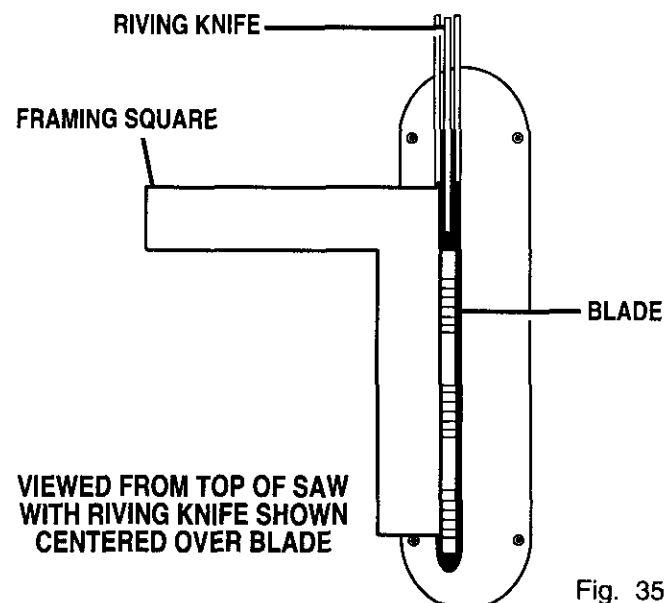

Fig. 35
- Center riving knife over the blade. See Figure 35.